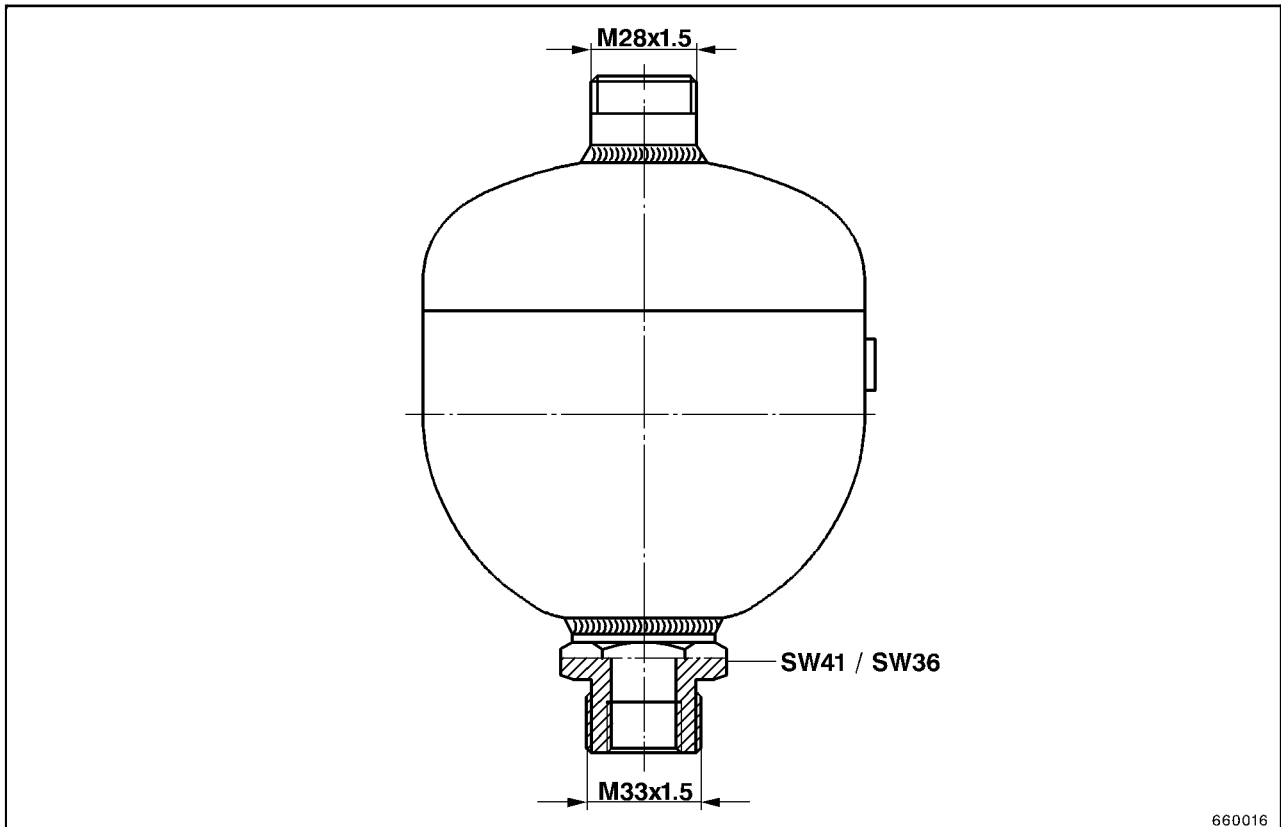

Fig. 5
The accumulator (B4, Fig. 5) has a preliminary pressure of 50 bars (725 psi). To check the preliminary pressure, the diesel engine (1) is switched off and the accumulator emptied by operating the brake pedal.